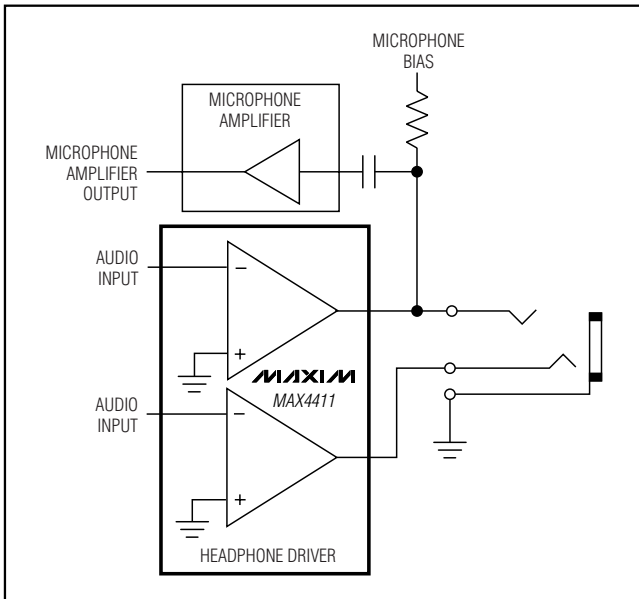

Figure 2. Earbud Speaker/Microphone Combination Headset Configuration
- When using a combination microphone and speaker headset, the microphone typically requires a GND reference. The driver DC bias on the sleeve conflicts with the microphone requirements (Figure 2).